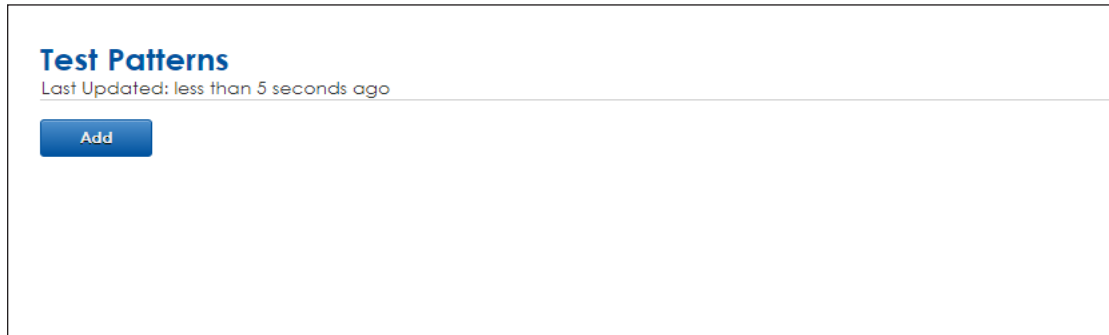

Figure 74: Create a Test Pattern
1. Click **Add** to create the test pattern. Refer to **Figure 74**.